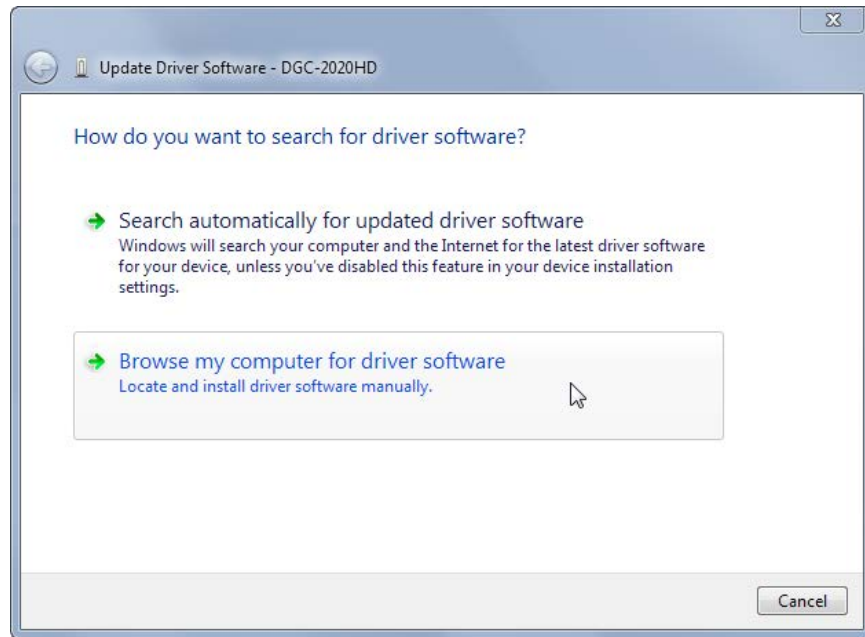

Figure 84. Update Driver Software - DGC-2020HD
Step 4. Select Browse My Computer for Driver Software as shown in Figure 84.